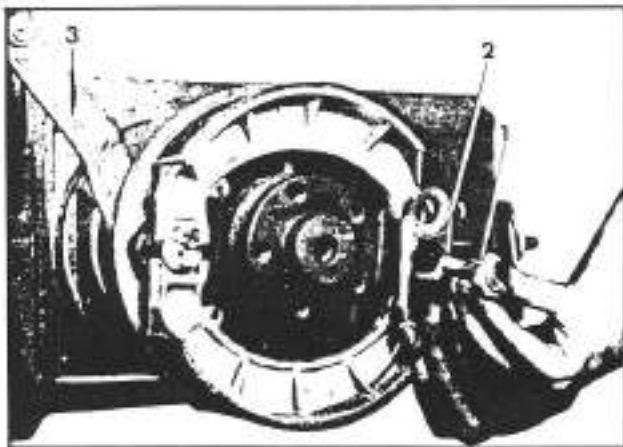

Fig. 3-51. Removal of the brake shoes
- c. Remove the bolts (1; fig. 3-51), the shackle (2; fig. 3-51), and take off the brake shoes by moving the lever (3; fig. 3-51).